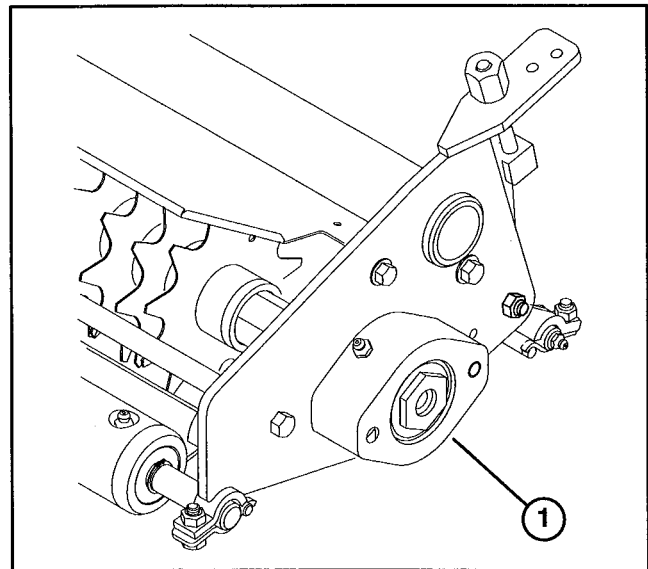

Figure 11
REMOVING REEL (Fig. 11–12)
1. Remove (2) capscrews and washers securing counterweight to end of dethatcher unit. Remove counterweight.
2. Remove (2) capscrews and washers securing reel motor to other end of dethatcher unit. Remove reel motor.
3. Remove (2) capscrews and lockwashers securing the reel bearing housings to each end of dethatcher unit (Fig. 11).